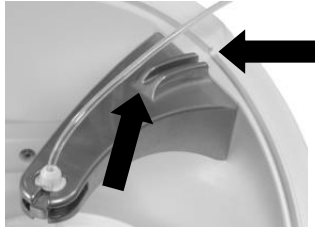

Figure 5. Place tubing through notch in centrifuge ridge.
8. Press tubing down into groove on support arm and place tubing through notch in centrifuge ridge (see Figure 5).